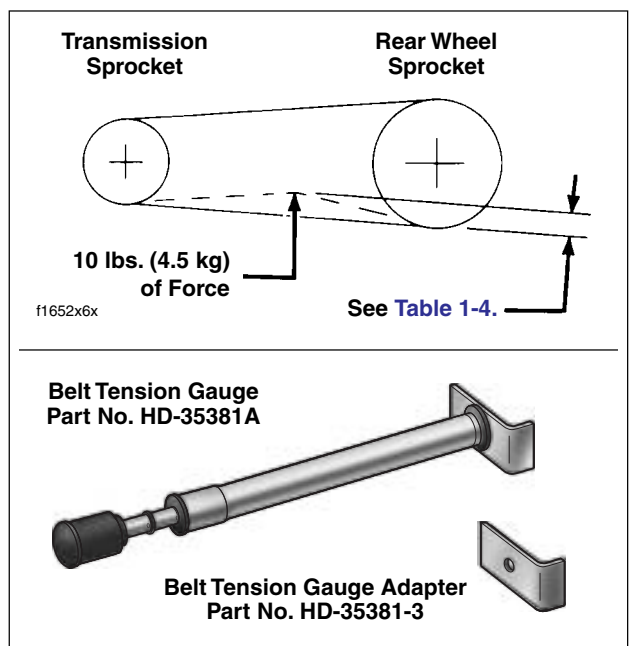

Figure 1-13. Check and Adjust Belt Deflection
2. Check deflection at the loosest spot in the belt with the transmission in neutral and the motorcycle cold. Use **BELT TENSION GAUGE (HD-35381A)**, or install **narrow saddle (HD-35381-3)** on existing gauge, and apply 10 lbs. (4.5 kg) of force at the midpoint of the bottom belt strand. See Figure 1-13. Belt deflection should be as follows: